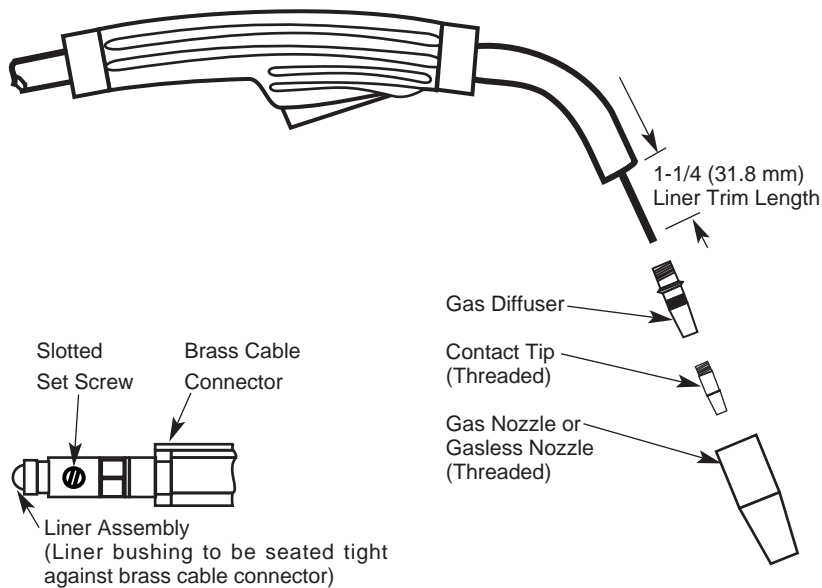

FIGURE D.2
2. Refer to Figure D.2. Remove the gas nozzle from the gun by unscrewing counter-clockwise.
1. Refer to Figure D.2. Remove the gas nozzle from the gun by unscrewing counter-clockwise.
**NOTICE:** The variation in cable lengths prevents the interchangeability of liners. Once a liner has been cut for a particular gun, it should not be installed in another gun unless it can meet the liner cutoff length requirement. Refer to Figure D.2.
8. With the gas nozzle and diffuser removed from the gun tube, be sure the cable is straight, and then trim the liner to the length shown in the Figure D.2. Remove any burrs from the end of the liner.